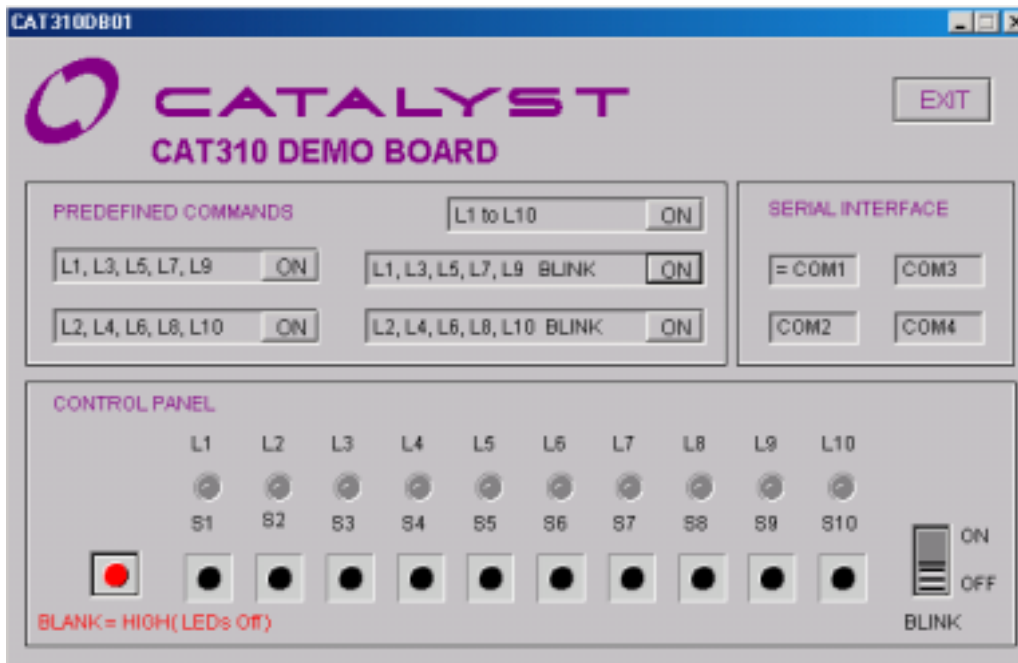

Figure 4. CAT310DB1 Software User Interface Window
- d) The CAT310DB1 user interface window opens (Figure 4).